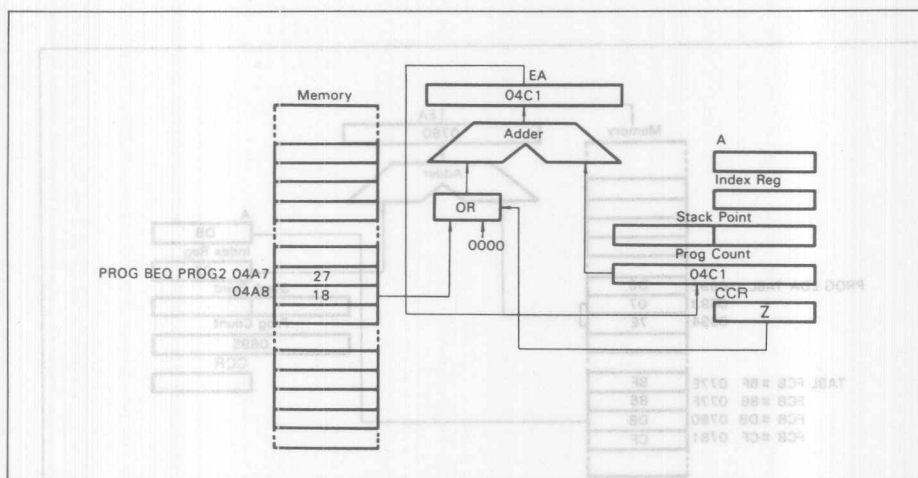

Fig. 2-28 Example of Relative Addressing
(4) Relative
Refer to Fig. 2-28. The relative addressing mode is used with only branch instructions. When a branch occurs, the program counter is loaded with the contents of the byte following the operation code. $EA = (PC) + 2 + Rel.$, where Rel. indicates a signed 8-bit data following the operation code. If no branch occurs, Rel. = 0. When a branch occurs, the program jumps to any byte in the range +129 to -127. A branch instruction requires 2